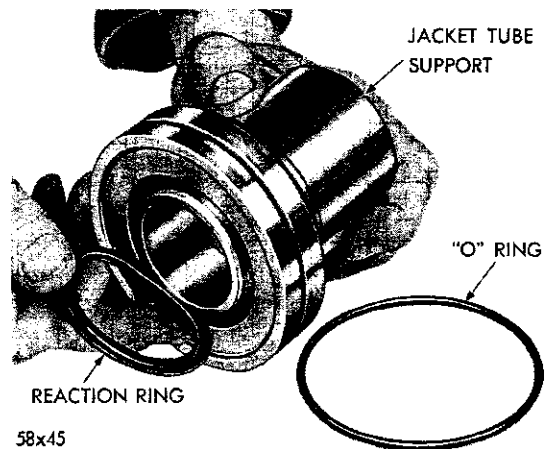

Fig. 34—Installing the Reaction Seal into the Jacket Support
- (2) Lubricate and install the reaction seal in the groove in the face of the column jacket support with the flat side of the seal out (Fig. 34).